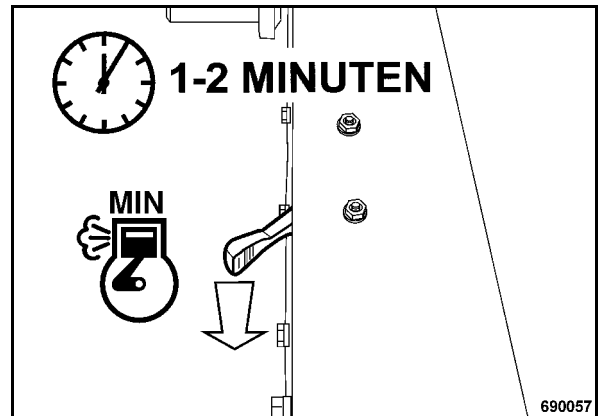

Fig. 25
- Set the throttle lever (Fig. 25) to position "MIN".